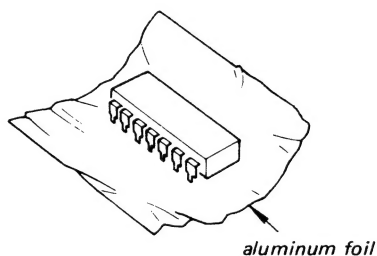

Fig. 1
1. Maintain all the pins at the same potential by wrapping the IC in aluminum foil or other similar material (See Fig. 1).